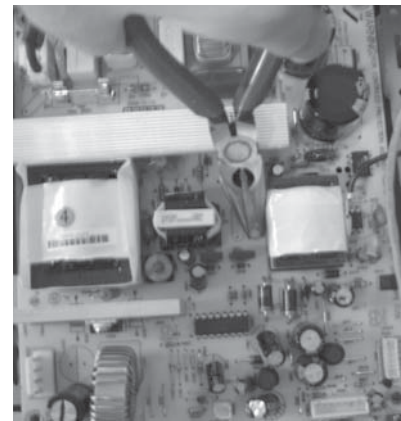

Figure 10
2) With a pincers to nip this space as shown in figure 10 and to take up the power board.